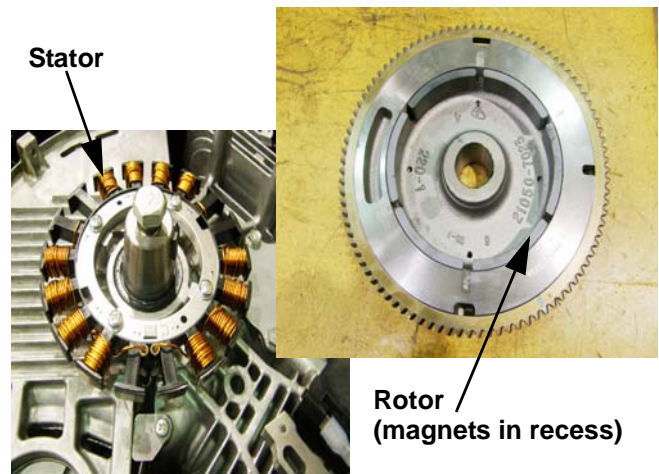

Figure 7.20
1. When the engine is running, magnets attached to the underside of the flywheel induce A.C. (Alternating Current) in the stator that is mounted beneath the flywheel. See Figure 7.20.